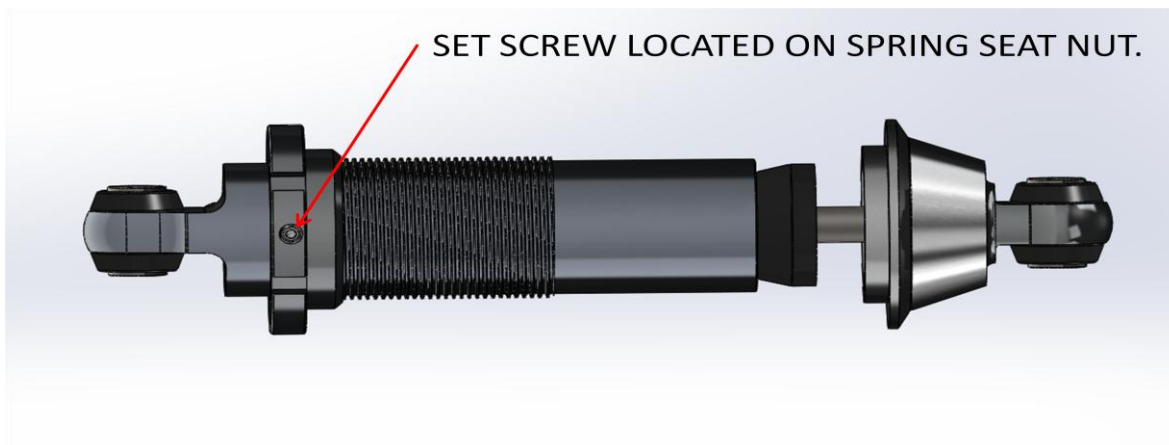

Figure 5. The set screw must be tightened down after the coil spring is installed.
- 7) Now is a good time to install the coil springs over the shocks. To do so loosen black set screw located on the spring seat nut. Remove threaded spring seat nut, slide on the coil spring, re-assemble See figure 5 below. Be sure not to over tighten the locking set screw and damage the shock body threads.